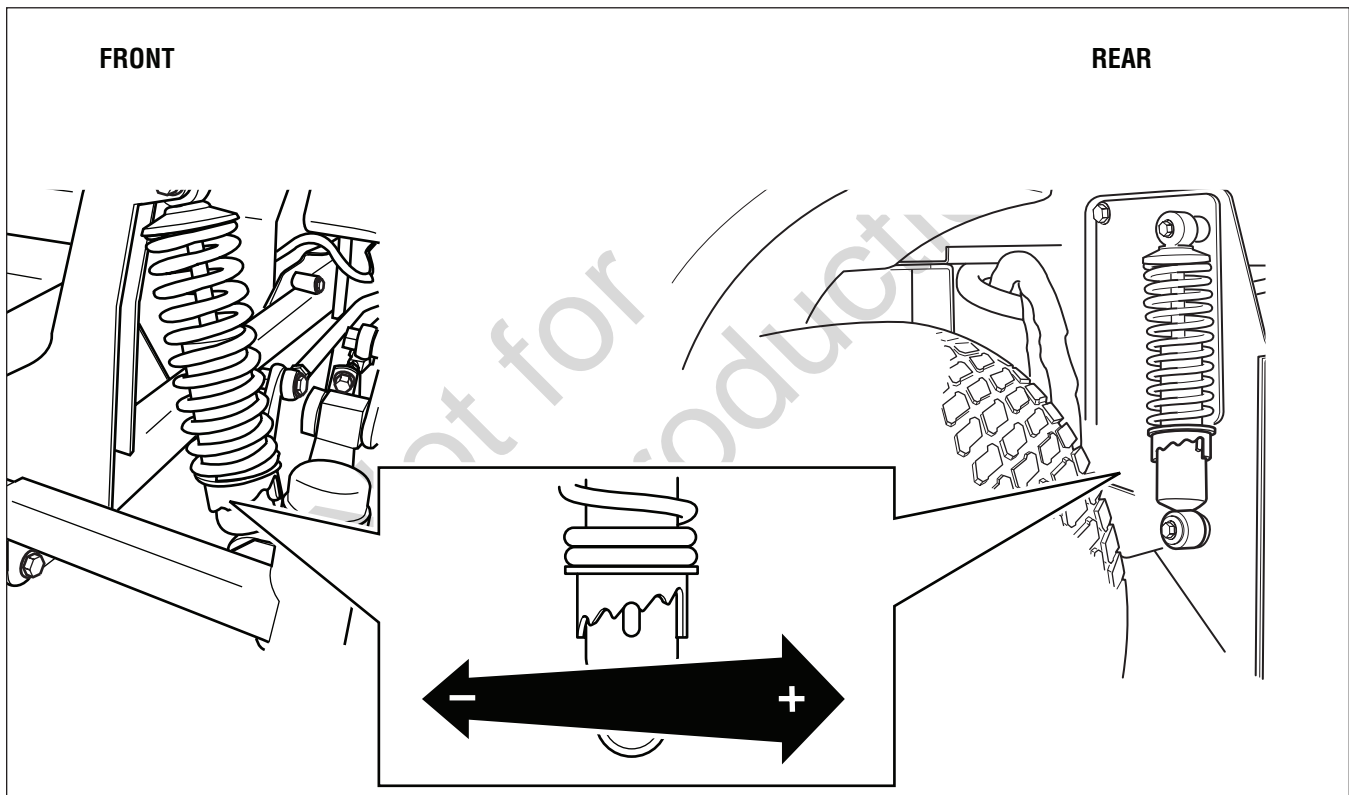

Figure 43. Suspension Adjustment
2. See Figure 43. Using the supplied spanner wrench (p/n 5022853), insert the tip of the wrench into the notch in the pre-load adjuster. While holding the wrench with both hands, turn **CLOCKWISE** to decrease the pre-load, turn **COUNTER-CLOCKWISE** to increase the pre-load. Make sure that for each pair of shocks that the left-hand and right-hand are set to the same amount of pre-load.